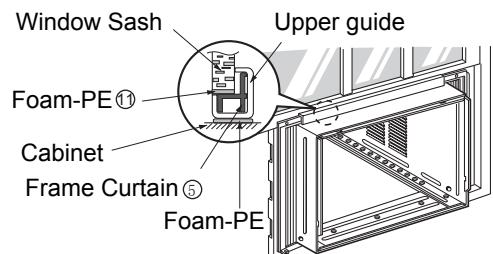

Fig. 2
2. Slide the unit out from the cabinet by gripping the base pan handle and pulling forward while bracing the cabinet. (Fig.2)
2. Pull the bottom window sash down behind the Upper Guide until they meet. (Fig. 2)
**NOTE:** Do not pull the window sash down so tightly that the movement of Frame Curtain⑤ is restricted.